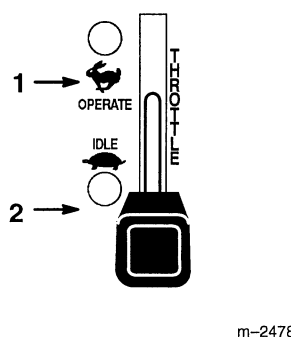

Figure 5
1. Move the throttle lever to “SLOW” (Fig. 5).